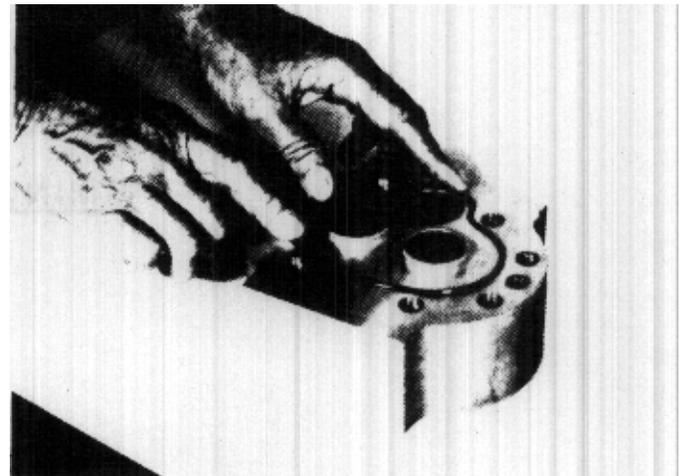

FIGURE 59
31. Install o-ring (25) in the bearing plate (3) on the side which has the bearings extending beyond the plate surface. Use heavy grease to hold the o-ring in position. (Figure 59)